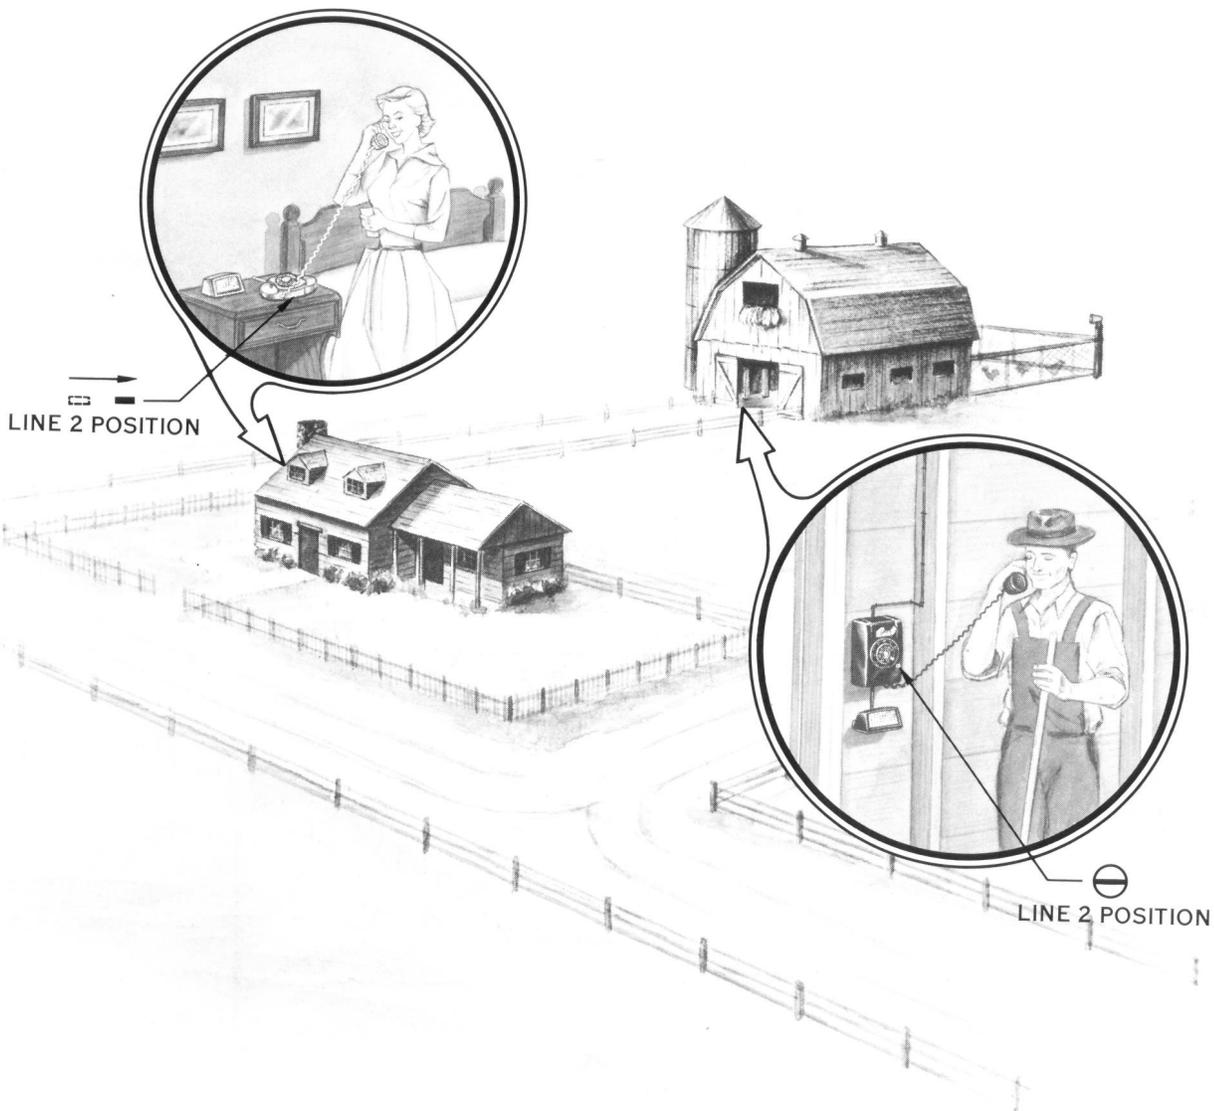

Fig. 8 - Interphone Calling
3.03 For local communication, place the line key of any telephone set in the line 2 position (Fig. 8).